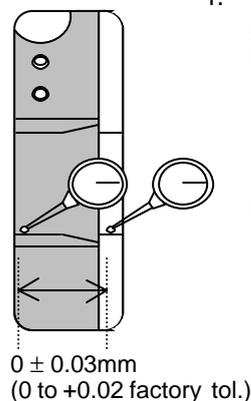

Figure 49
2. For station 9, turn the cam to zero degrees and turn the placing solenoid ON. Measure the slider height in relation to the cylindrical cam as illustrated in Fig. 49.
3. For station 1, turn the cam to zero degrees, turn the Pick-up solenoid ON and make sure the NZ axis is set at the minus mechanical stopper. Measure the slider height in relation to the cylindrical cam as illustrated in Fig. 49.